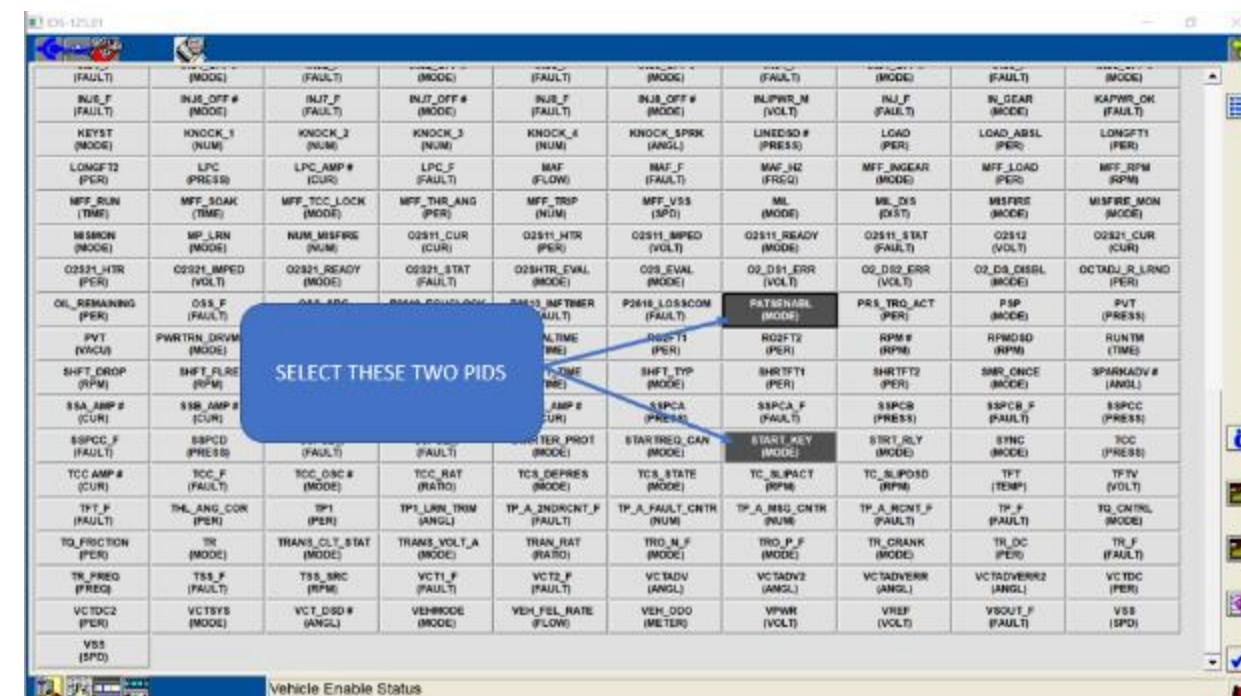

Fig 5
Step 4: Select the two PIDS identified below and select the blue check mark in the lower right-hand corner. Figure 5